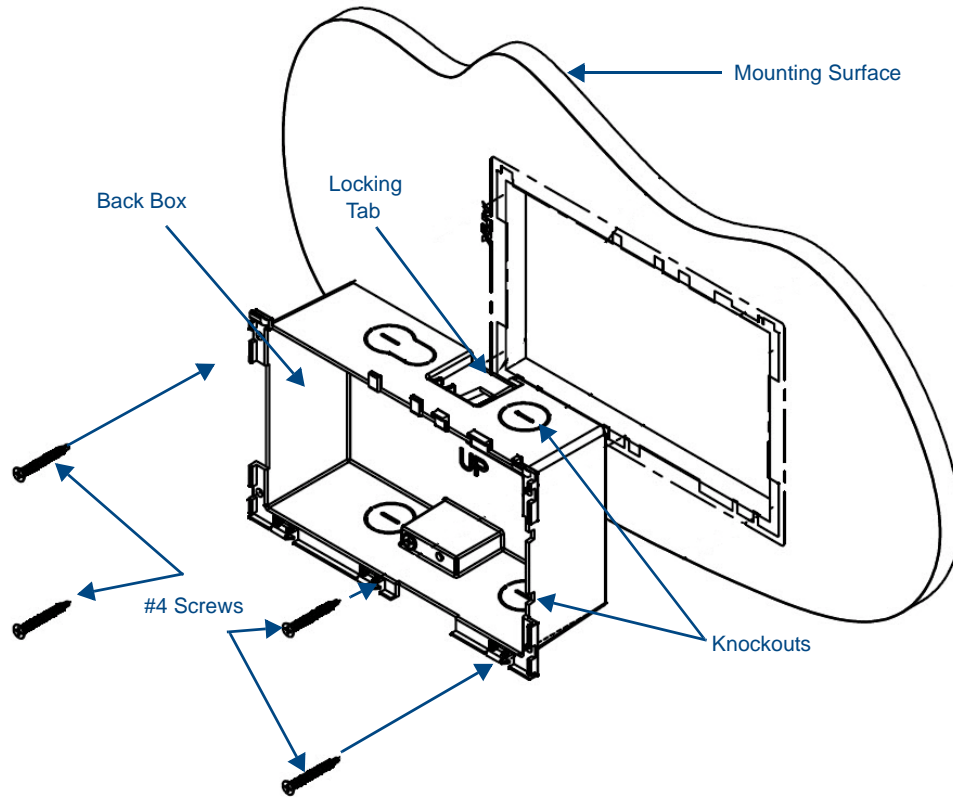

FIG. 17 MXD-700 Back Box Installation (Landscape)
- 4.** Thread the incoming Ethernet from their terminal locations through the surface opening (FIG. 17). *Leave enough slack in the wiring to accommodate any re-positioning of the panel.*
5. Remove the back box knockouts (FIG. 17) and thread the incoming wiring through the knockout holes. To facilitate installation, thread the Ethernet cable through a bottom knockout (Landscape) or a right-side knockout (Portrait), and the USB cable through a top knockout (Landscape) or left knockout (Portrait)
9. For additional strength, #4 mounting screws (not included) may be secured through circular holes located at the left and right sides of the MXD-700 (FIG. 17). In order to prevent damage to the touch panel, make sure that these are flush with the back box.